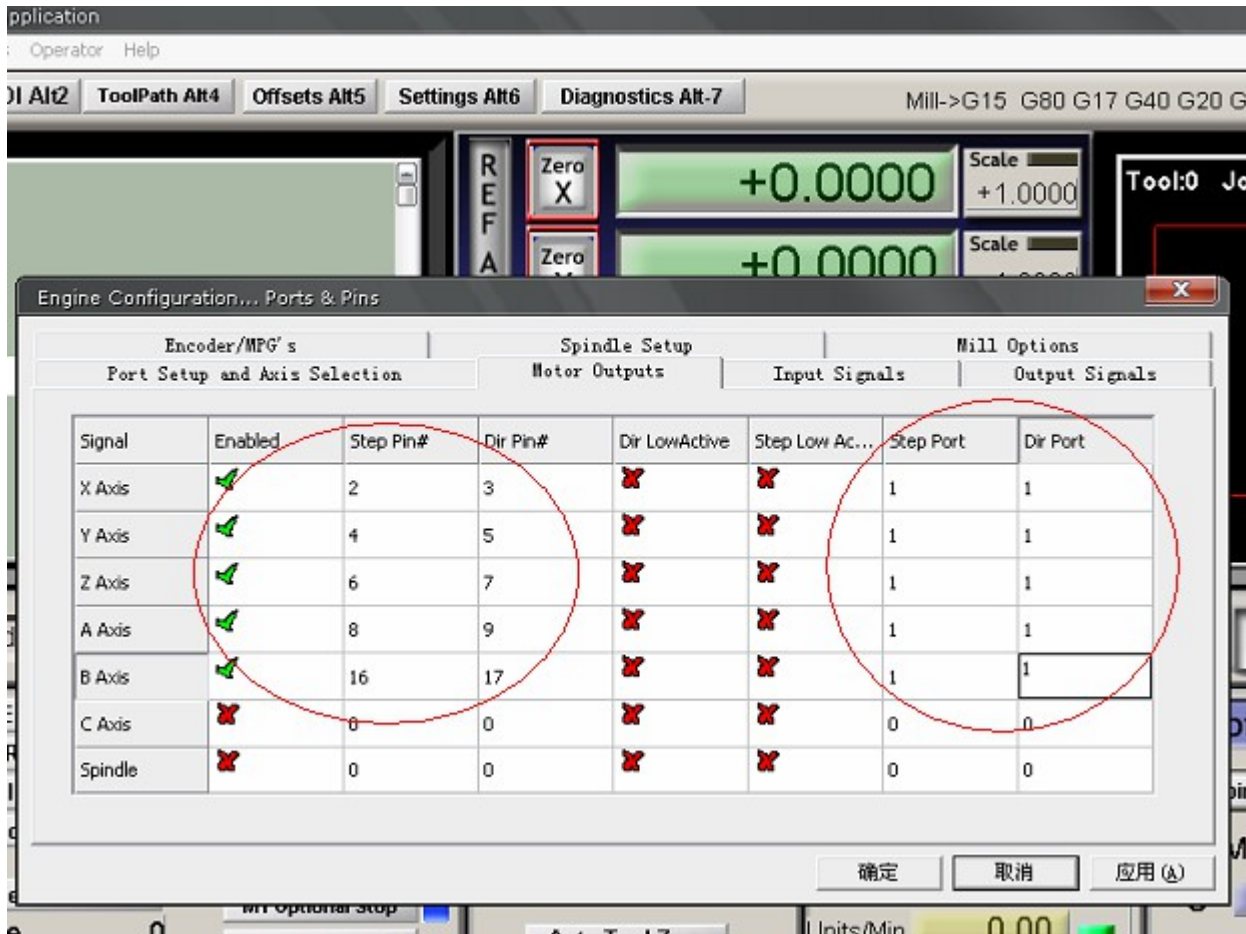

Fig 5 The pin setting of Dir,Step
**Circle 1 is for setting the fundamental frequency, this parameter affect the motor rotation speed. Set up and select Circle 2,then will shown in below Fig5 to set up the Pulse and Direction.**